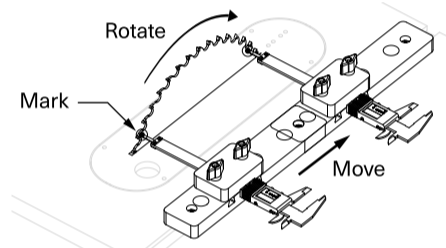

Fig 5a - Adjust miter slot
- 5.1 Unplug the saw and raise the blade to full height. Mark the blade at the closest point to the front of the table [Fig 5a].